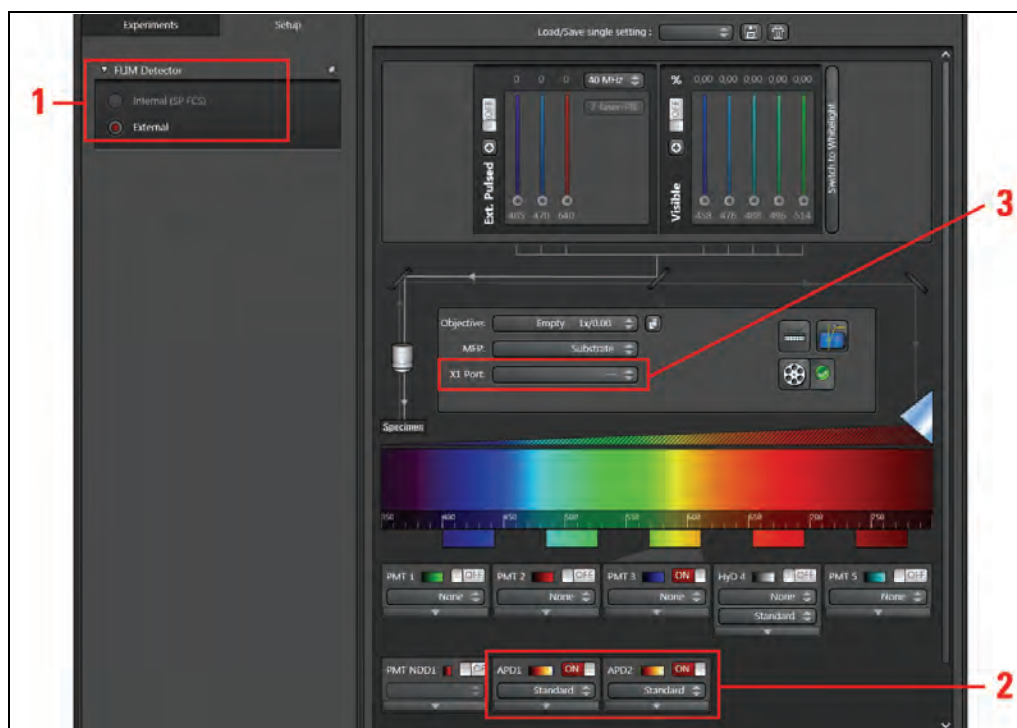

Figure 121: Selecting external APDs for FLIM data acquisition
4. In the **FLIM detector** pull-down menu, select the **External** option (**Figure 121, item 1**). In **Beam Path Settings**, the APDs should be selected automatically (**Figure 121, item 2**).
- If no image is displayed, check whether the --- option is set at **X1 Port** (Figure 121, item 3).
4. If no FLIM image is displayed in the SymPhoTime software, check whether the --- option is set at **X1 Port (Figure 121, item 3)**.